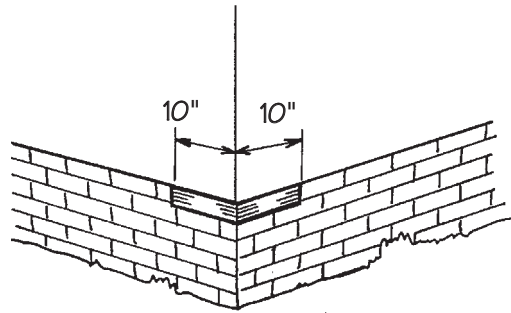

Figure 27.
- A water resistant material should be used to flash the inside and outside corners a minimum of 10" on each side before installation of the corner posts (Fig. 27).